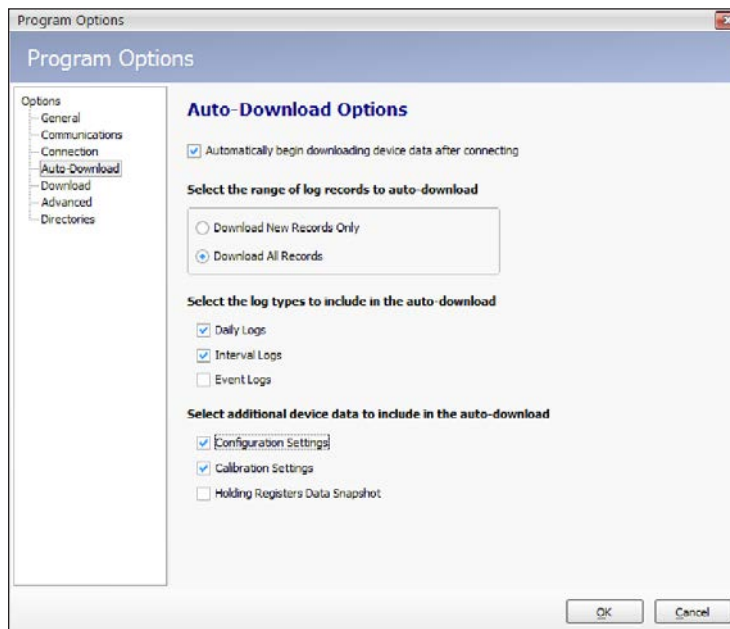

Figure 14.4
- When the Program Options dialog opens, click the **Auto-Download** option from the list at the left side of the screen (Figure 14.4).